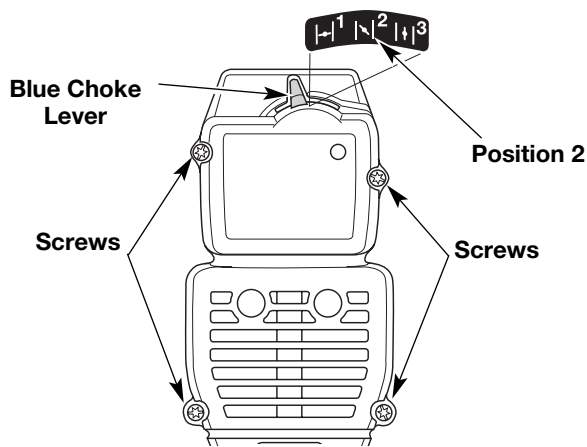

Fig. 13
**NOTE:** The blue choke lever must be in Position 2 (Fig. 13) to remove the air filter/ muffler cover.
2. Remove the four (4) screws securing the air filter/muffler cover (Fig. 13). Use a # T20 Torx bit screwdriver.
2. Insert the four (4) screws into the holes in the air filter/muffler cover (Fig. 13) and tighten. Use a # T20 Torx bit screwdriver. Do not over tighten. Do not force.